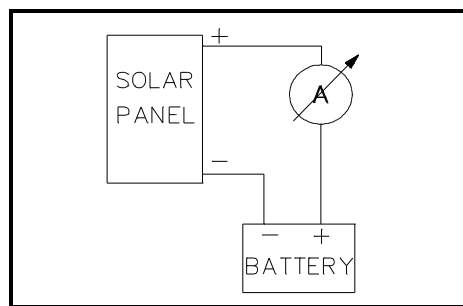

Figure 4 Reverse Dark Current
- Battery and current meter are connected as shown in Figure 4; the test fixture uses a 1 Ohm sense resistor and Volt meter to make this measurement.